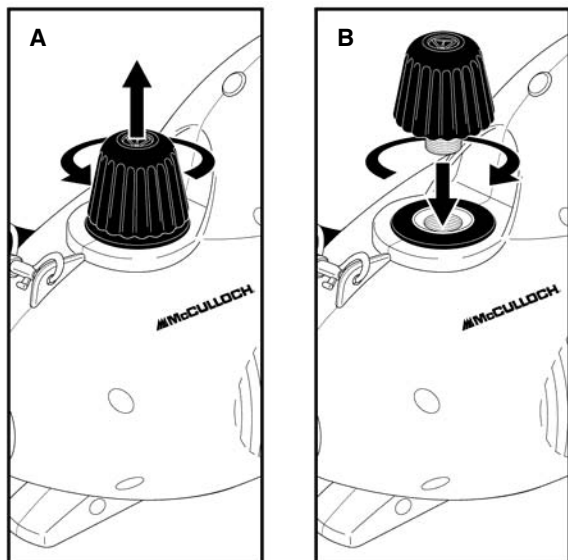

FIGURE 7
4. Cautiously unscrew Boiler Cap by rotating it in a counter-clockwise direction, and remove (FIGURE 7-A).
9. Replace Boiler Cap, rotating it in a clockwise direction and ensuring that it is screwed on tightly to prevent hot steam from escaping and causing injury (FIGURE 7-B).